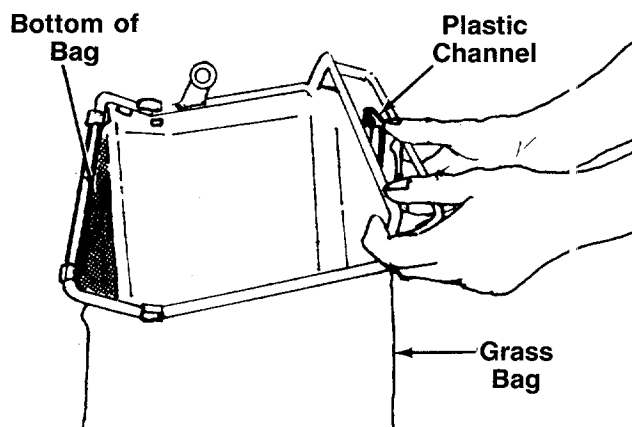

FIGURE 14.
4. Secure bag to frame by slipping plastic channels on bag over frame. See figure 14.